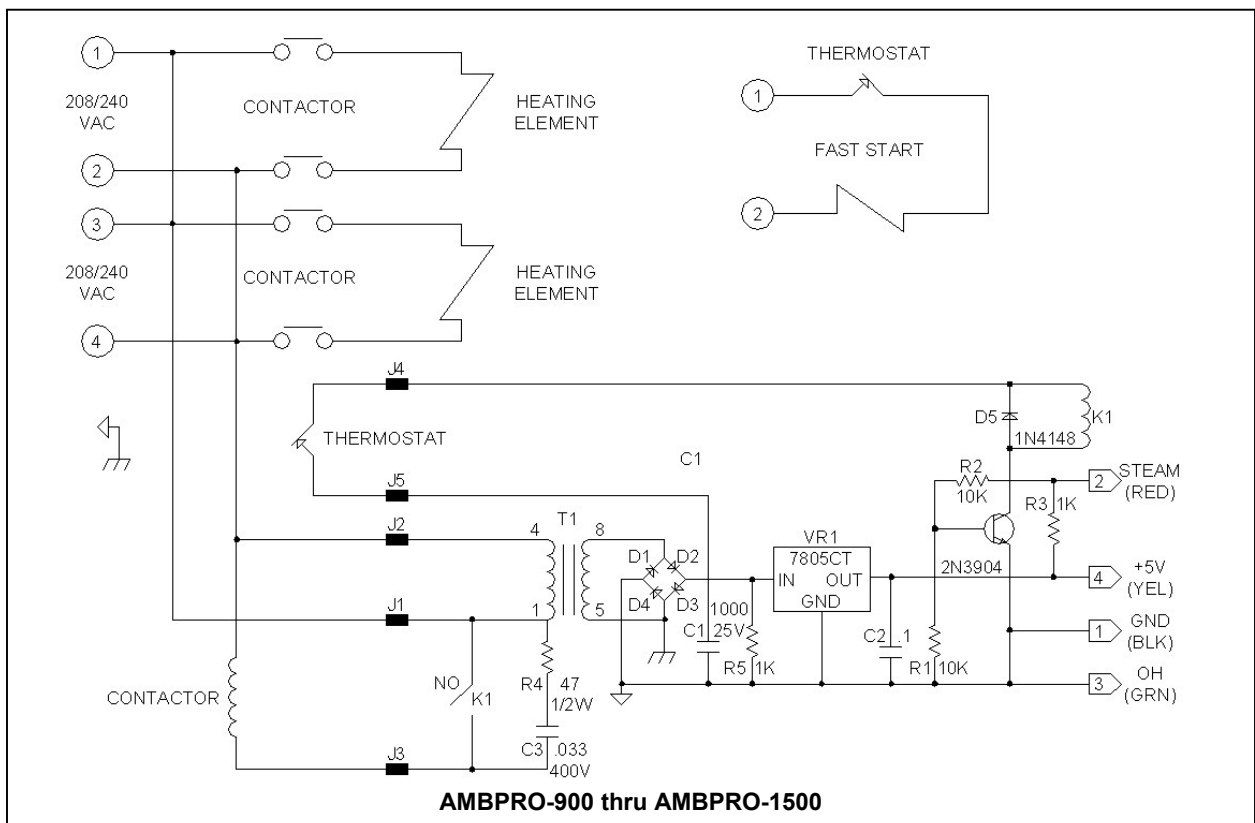

Figure 7
3. On AMBPRO-900 thru AMBPRO-1500 connect 230-VAC electrical lines to wires labeled 1,2 (breaker one) and 3,4 (breaker two) in electrical box on generator. Do not install a GFI (Ground Fault Interrupter) to this machine, (per article 210-8 in the National Electrical Code). This will prevent tripping (see Figure 7).